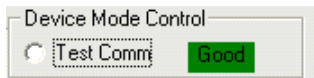

FIGURE 31.
- **Test Communication** with the IC by clicking the button shown in Figure 31; if it shows “good”, then the hardware and software are properly set up; if it says “fail”, then check your connections. If the problem still persists, then you may want to restart the software.